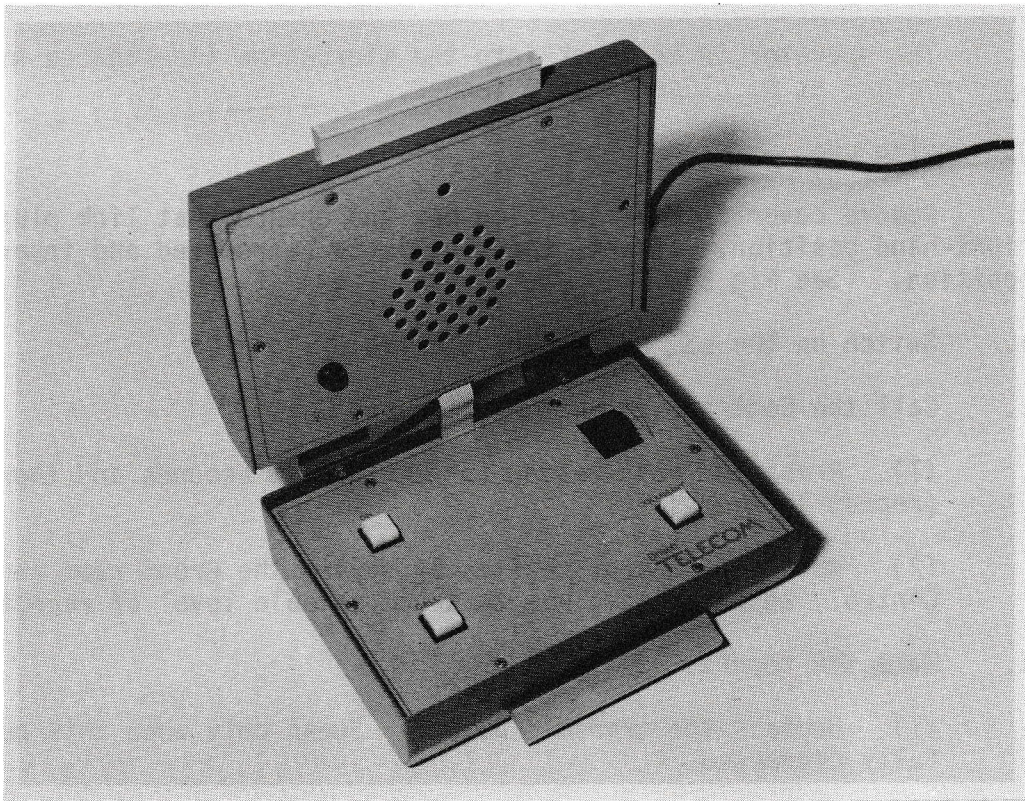

Fig B1
2. The instrument appears in the form of a lidded box and is automatically connected to line when the lid is open and disconnected when the lid is closed. (Fig B1)